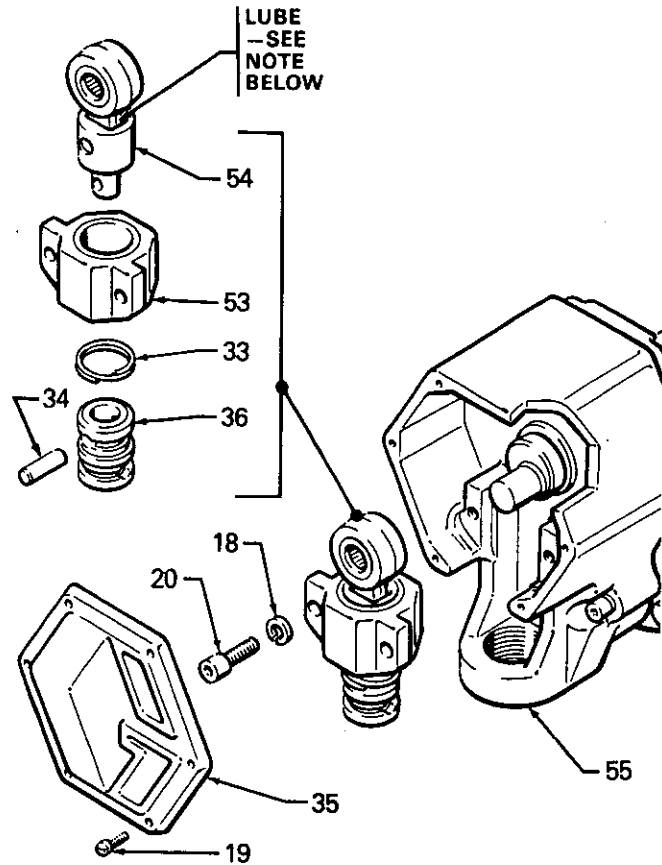

Fig 18
Remove pump as described on page 16. Remove the 6 screws (19) and cover (35). Remove the 2 screws and lockwashers (20 and 18). Remove bearing (53) and connecting rod (54), sliding connecting rod off the crankshaft. See Fig 18.